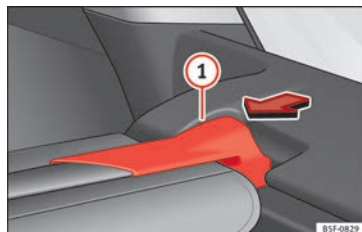

Fig. 162 In the luggage compartment: removing the rear shelf.
- Press the support of the rear shelf » Fig. 162 1 in the direction of the arrow.
- Engage the support of the rear shelf » Fig. 162 ① in the right housing.
- Check that the support » Fig. 162 ① is properly engaged.